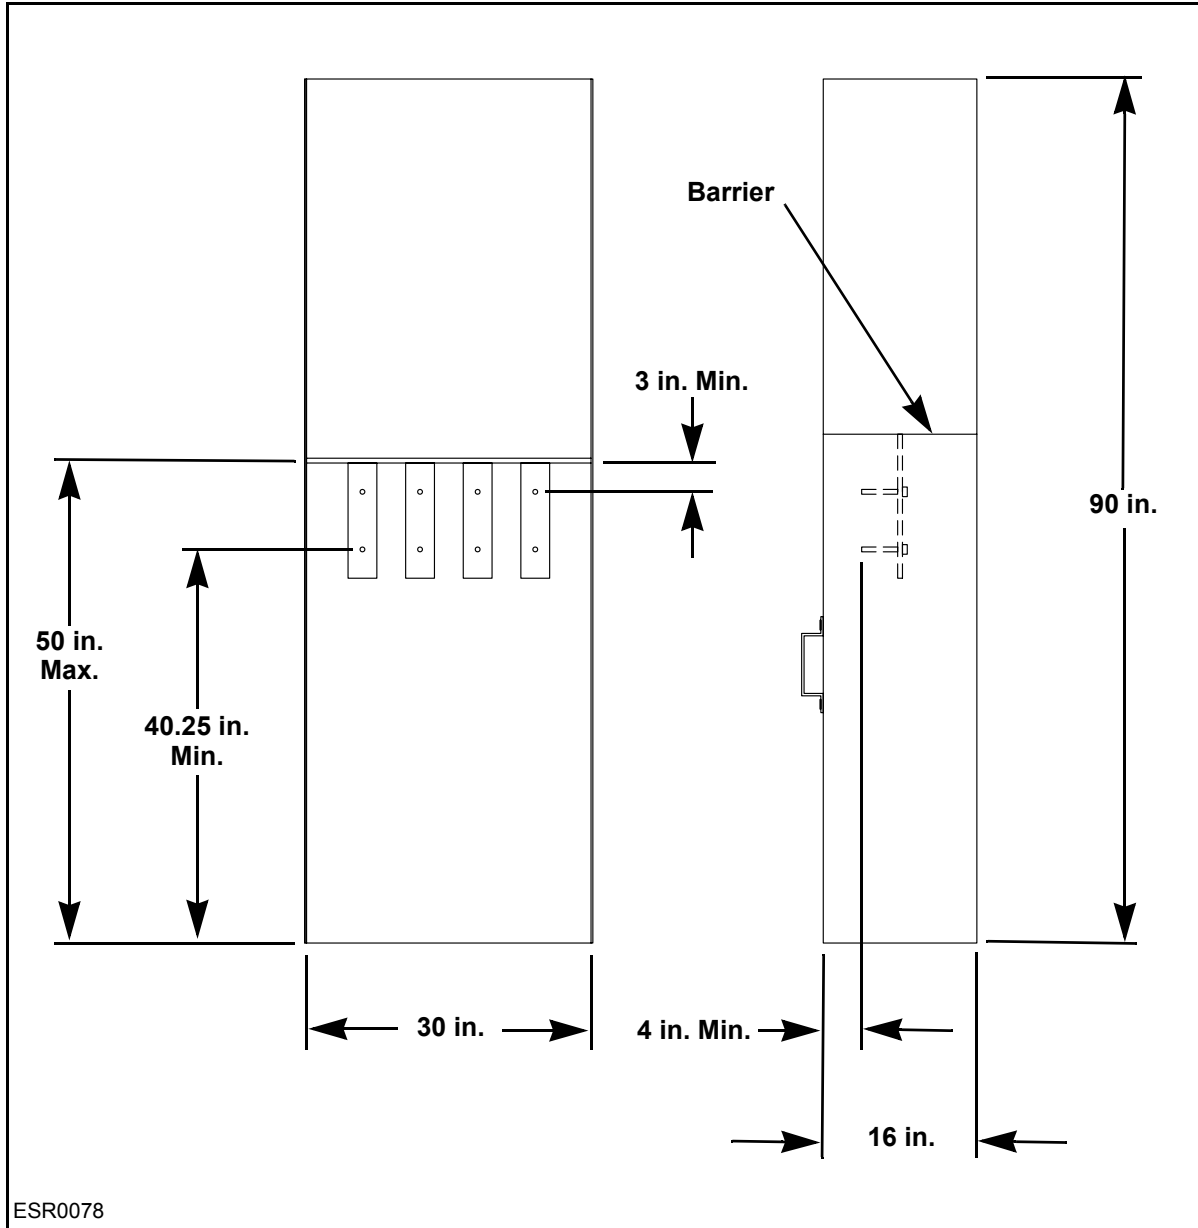

Figure 11-2: Load Section of an Indoor Switchgear (EUSERC 327)
- The load section of an indoor switchgear may be used by PGE as the terminating section for underground service (EUSERC 327). See **Figure 11-2**.